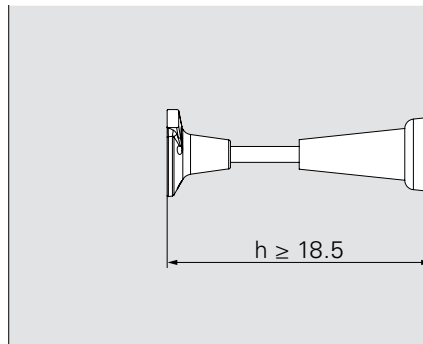

Fig. A2.08
- Anchoring depth h is variable but minimum 18.5 cm. (Fig. A2.08)